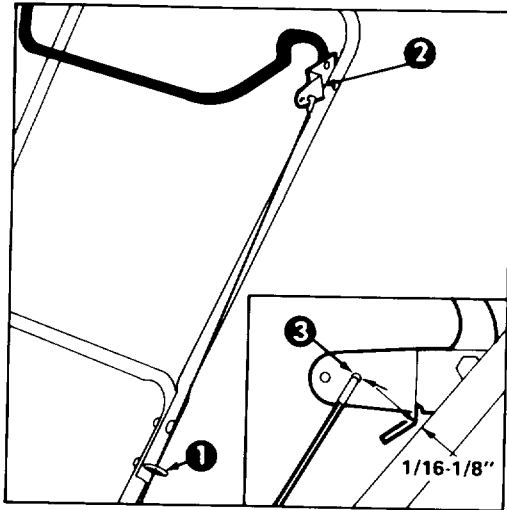

Figure 9
ADJUSTING CONTROL BAR (Fig. 9 & 10)
2. CHECK ADJUSTMENT-(Fig. 9) — Move control bar back toward handle until slack in cable is removed. Gap between control bar bracket and handle should be approximately 1/16-1/8". If cable is too loose or too tight proceed to step 3 for adjustment procedure.